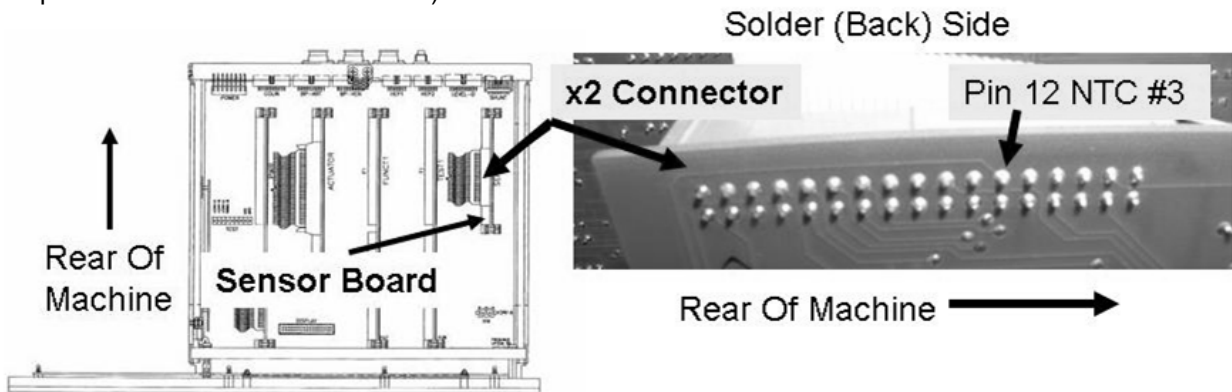

Figure 53 – NTC #3 Checks
f) Per Figure 53 below, measure at the solder side of Sensor Board's 'X2' connector at *pin 12* (top row, 6 pins from the rear of the machine).